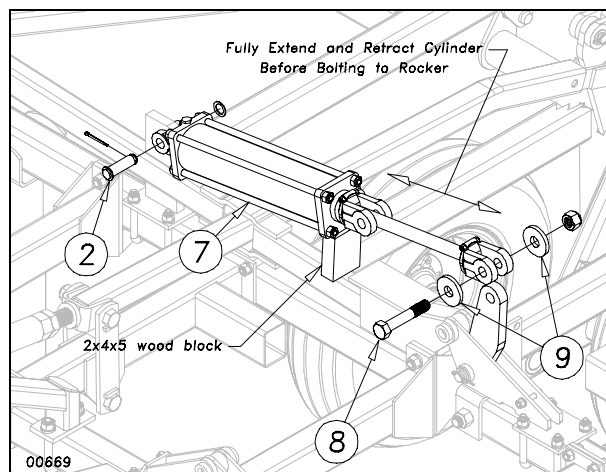

Figure 11
Once the fold cylinders are fully charged and free of air, connect them to the rockers. Use a 1 x 5 1/2 bolt (8) to bolt two 3" rollers (9), one on each side, to the 180 degree rocker as shown in Figure 11. Secure with 1" nylon lock nut. **Rollers must turn freely!**